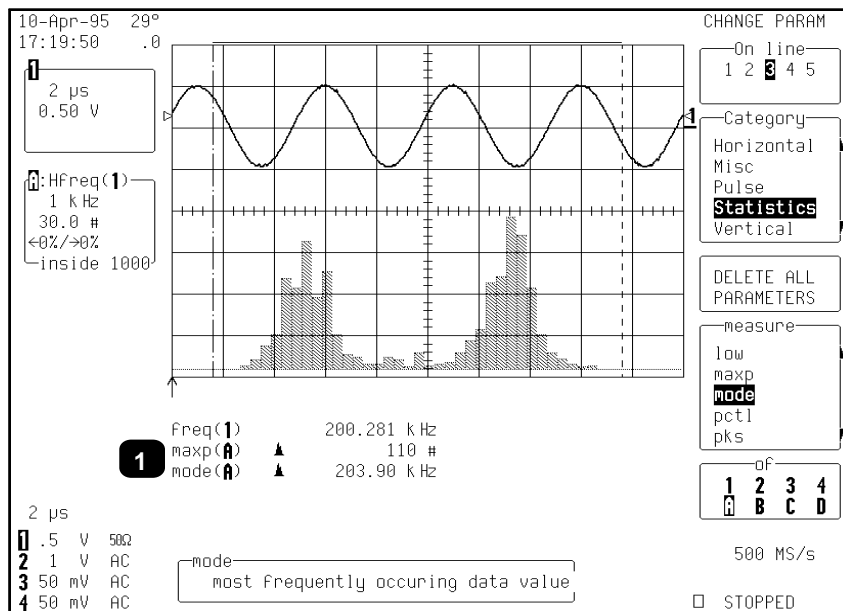

Figure 14-8.
1. Press the button to select  and access the CHANGE PARAM menus (Figure 14-8).